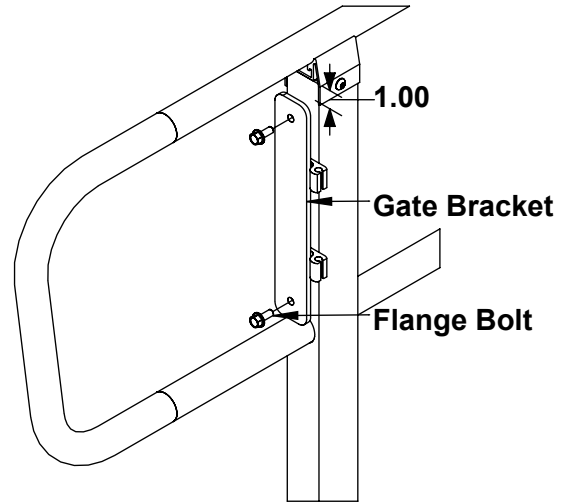
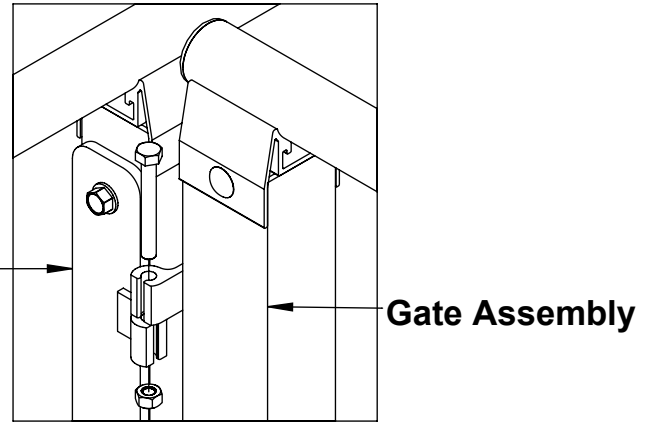
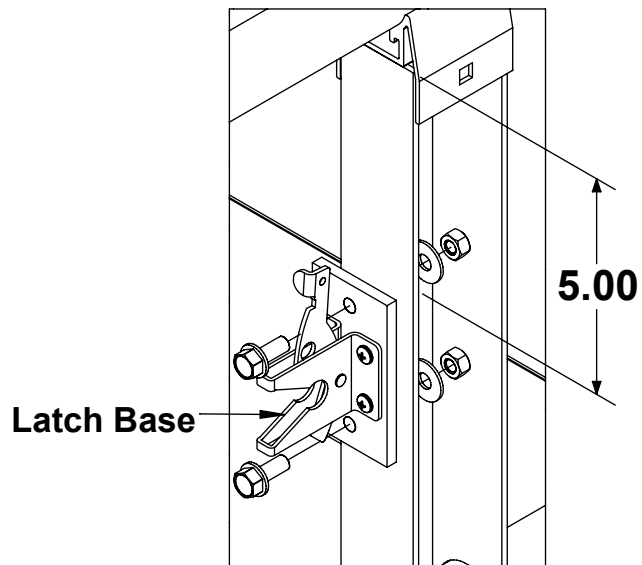

Fig.5.9
Fig.5.10
Fig.5.11
5.3 GATE ASSEMBLY: Place gate bracket 1.00" down and flush with edge of post (**Fig.5.9**). Mark location of holes and drill holes for 5/16" hardware. Attach with 5/16x3/4 Flange bolts, flat washers, and selflock nuts. Fasten gate assembly to bracket with 5/16x2½ hex bolts and selflock nuts (**Fig.5.10**) gate should swing freely do not over tighten hardware. Place latch with base on post approximately 5" down and flush with edge of post (**Fig.5.11**). Swing gate closed to make sure the latch rod engages the latch, it may be necessary to adjust latch up or down to properly align with latch rod. Mark location of holes and drill holes for 5/16" hardware. Attach with 5/16x3/4 Flange bolts, flat washers, and selflock nuts.